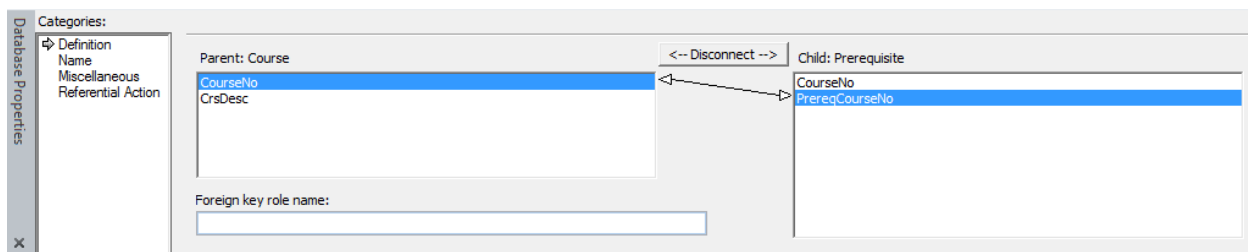

Figure 50: Relationship Properties after Associating the Primary and the Foreign Key
- Create the *PrerequisiteTo* relationship: Create a second relationship with the *Course* entity as the parent and the *Prerequisite* entity as the child. The relationship connects *Course.CourseNo* to *Prerequisite.PrereqCourseNo* as shown in Figure 50. Set the relationship properties as follows: *Verb phrase*: “PrerequisiteTo”, *Inverse phrase*: “CourseOf”, *Cardinality*: “Zero or more”, and *Relationship type*: “Identifying”. This relationship provides the list of courses that immediately follow a given course.